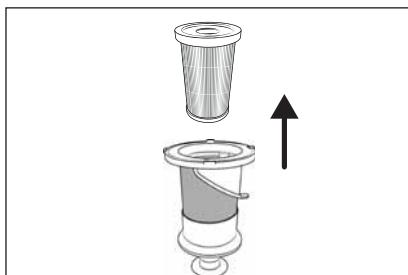

Fig. 19
- 4) Remove the HEPA filter ④ from the stainless steel filter ⑤ by reaching into the opening of the HEPA filter ④ and pulling it out of the stainless steel filter ⑤ (see Fig. 19).